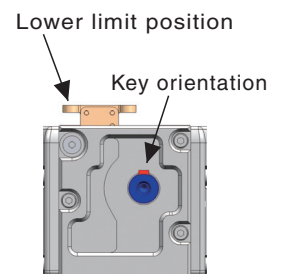

Figure 3
13. If the ZCA is installed using the bottom surface of the drive section, then the keyway of the input shaft will face almost perfectly upward at the stroke lower limit (see Figure 3). However, if synchronized a small amount of displacement will occur due to individual differences from backlash and so on. To prevent this, separately install a mechanism that adjusts phase.
15. Using bellows intended for vertical lifting or hanging installation with horizontal lateral installations (Y) or horizontal longitudinal installations (T) will shorten the service life of the bellows. If bellows are needed in horizontal lateral (Y) or longitudinal (T) installations, be sure to use bellows that incorporate special parts designed for this purpose.